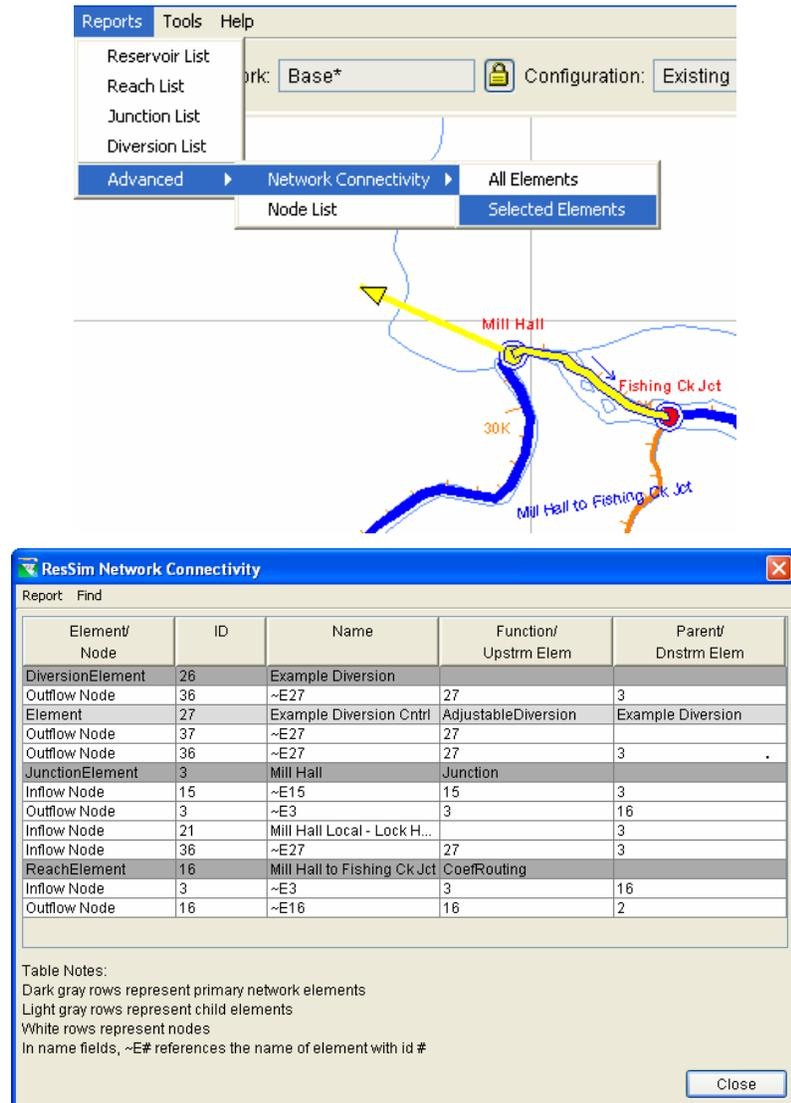

Figure 8.20 Reservoir Network Reports: Advanced -- Network Connectivity – “Selected” Elements
- The **Selected Elements** connectivity report (Figure 8.20) is accessed by first selecting elements in the Map Display area by holding down the SHIFT key and clicking on the desired elements (performs multiple selections as indicated in the map shown in Figure 8.20). Then, from the **Reports** menu, select: **Advanced** → **Network Connectivity** → **Selected Elements**